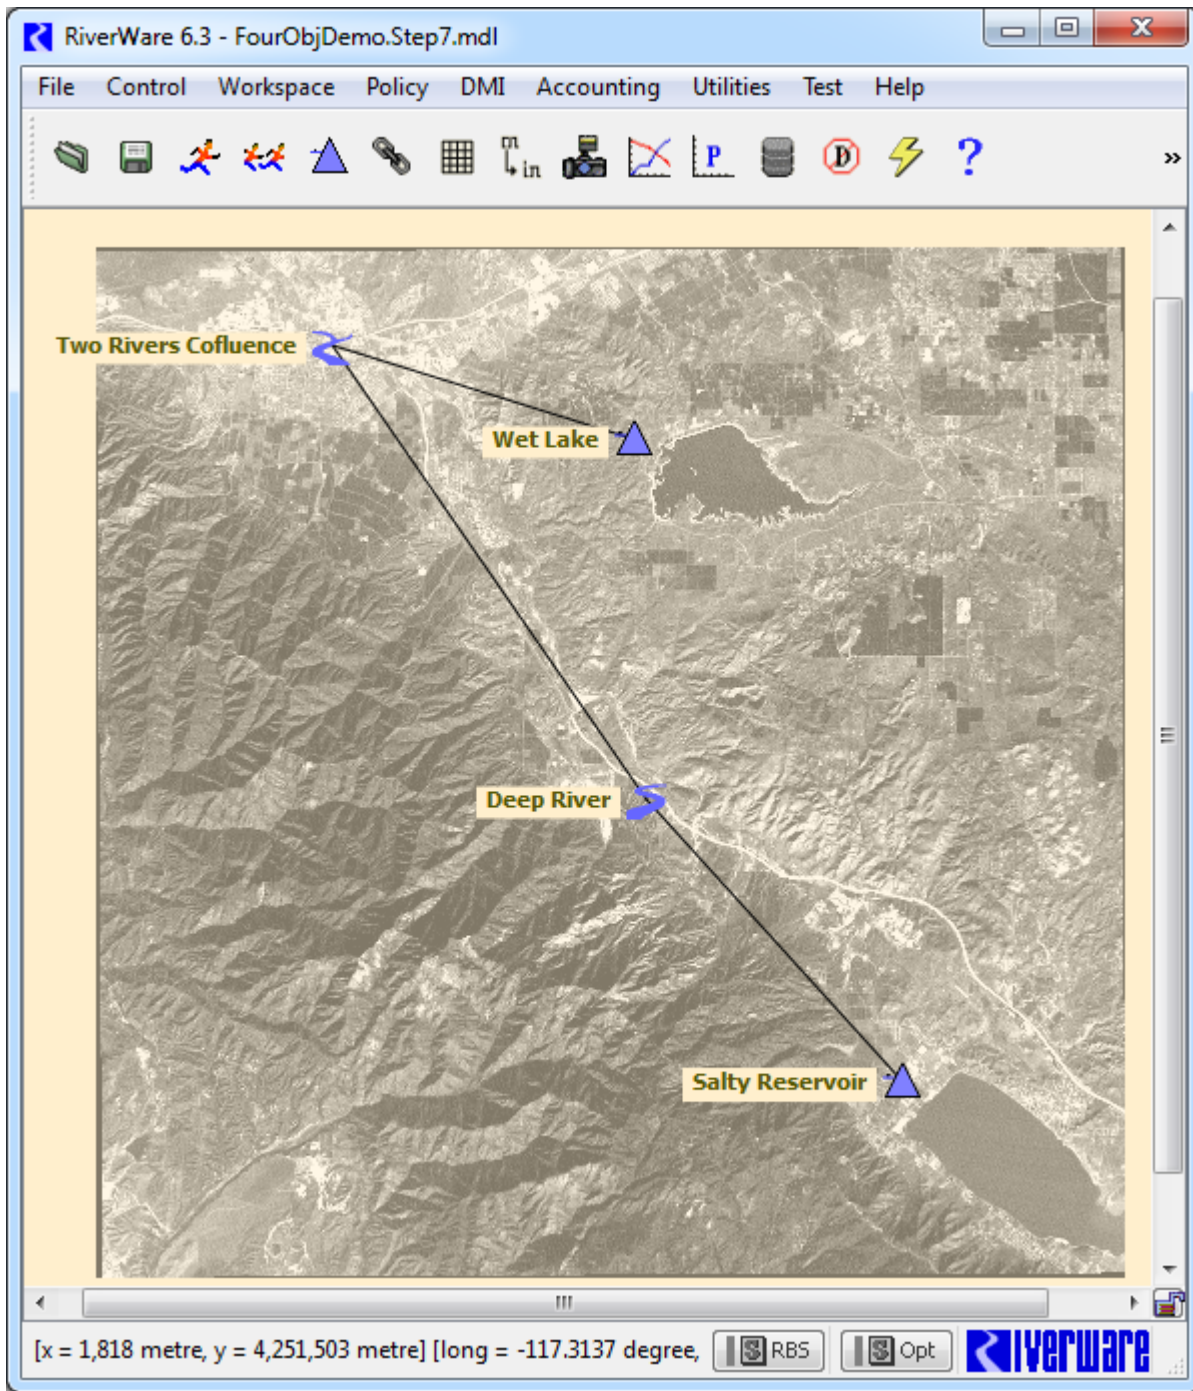

Figure 12: Geospatial canvas after adjusting settings
Step 7 - Refine the Configuration: For this small, low resolution image, the RiverWare icons tend to obscure the map. To improve the display, you can return to the canvas configuration dialog and adjust controls in the **Additional Display Settings** tab. Figure 12 shows the workspace after tinkering with the background color, font, and label orientation, and then adjusting the icon positions further.